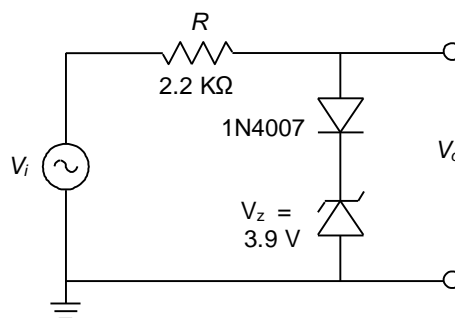

Fig. 2 Positive clipper
1. Connect the circuit as shown in Fig. 2 with $R = 2.2\text{ k}\Omega$.
3. Connect the function generator output to the circuit as shown in Fig. 2.